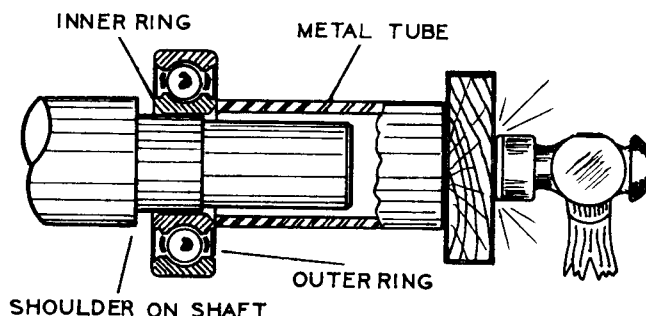

Figure 4-8 Installing Bearing
4.16.1 Heat the bearing to 250 degrees Fahrenheit in a clean temperature controlled circulating air oven. Start the heated bearing onto the shaft. Then use a fiber or soft metal sleeve to tap bearing into place. See figure 4-8. Make certain that pressure is applied only to the bearing inner ring. Press bearing onto shaft until bearing inner ring rests against the bearing shoulder on the shaft. Assemble the motor-generator after the bearing has cooled.